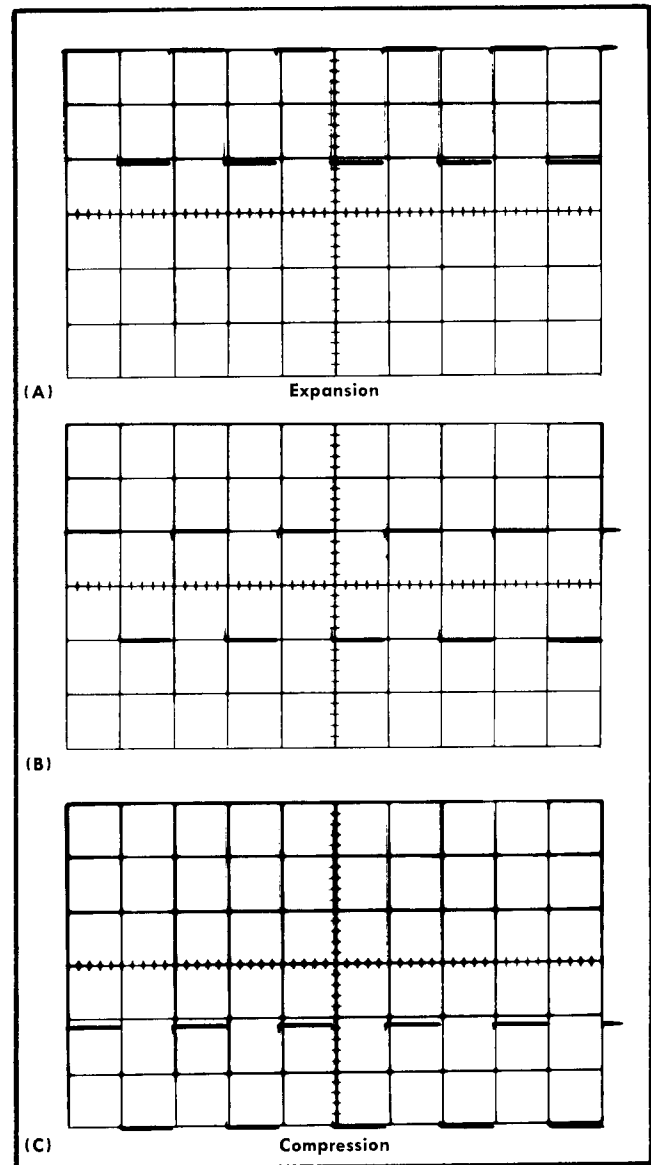

Fig. 6-21. Typical CRT display showing acceptable compression and expansion. (A) Expansion, (B) correct deflection at center of graticule, (C) compression.
- e. CHECK—Compression or expansion 0.1 division or less (see Fig. 6-21).
- g. CHECK—Compression or expansion 0.1 division or less (see Fig. 6-21).
- l. CHECK—Compression or expansion 0.1 division or less (see Fig. 6-21).
- n. CHECK—Compression or expansion 0.1 division or less (see Fig. 6-21).